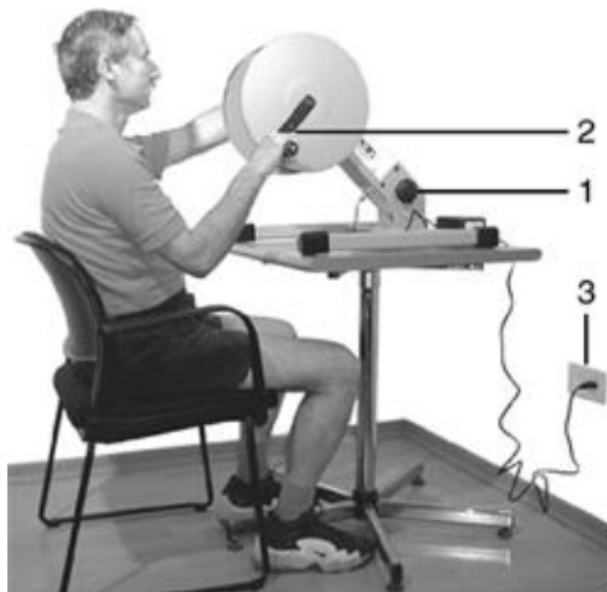

Figure 5
- Position the APT-5 on a level tabletop close to an electrical socket outlet (Figure 5).